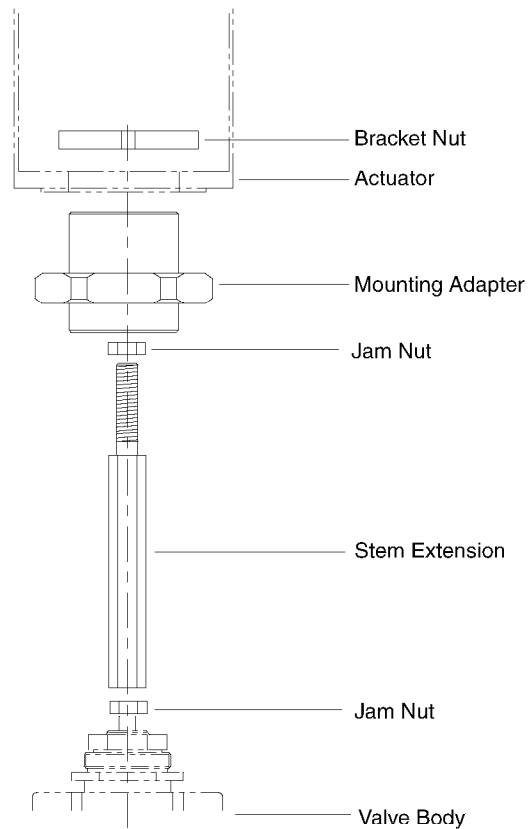

Figure-6 Typical VB-7XXX Valve Assembly.
3. With valve at its normal stem up position, place the jam nut onto the valve stem and screw it all the way down to the bottom of the threads. Refer to Figure-6.
3. With valve at its normal position, place the jam nut onto the valve stem and screw it all the way down to the bottom of the threads. Refer to Figure-6.